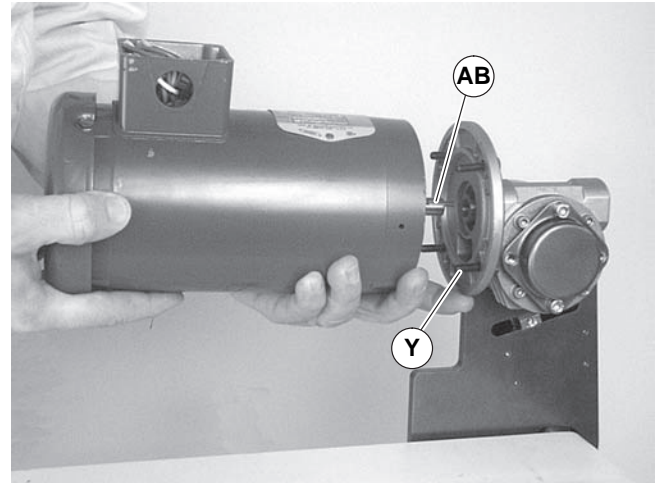

**Figure 29**
4. Remove four screws (Figure 29, item Y). Detach motor (Z) from gear reducer (AA). Retain motor output shaft key (AB).